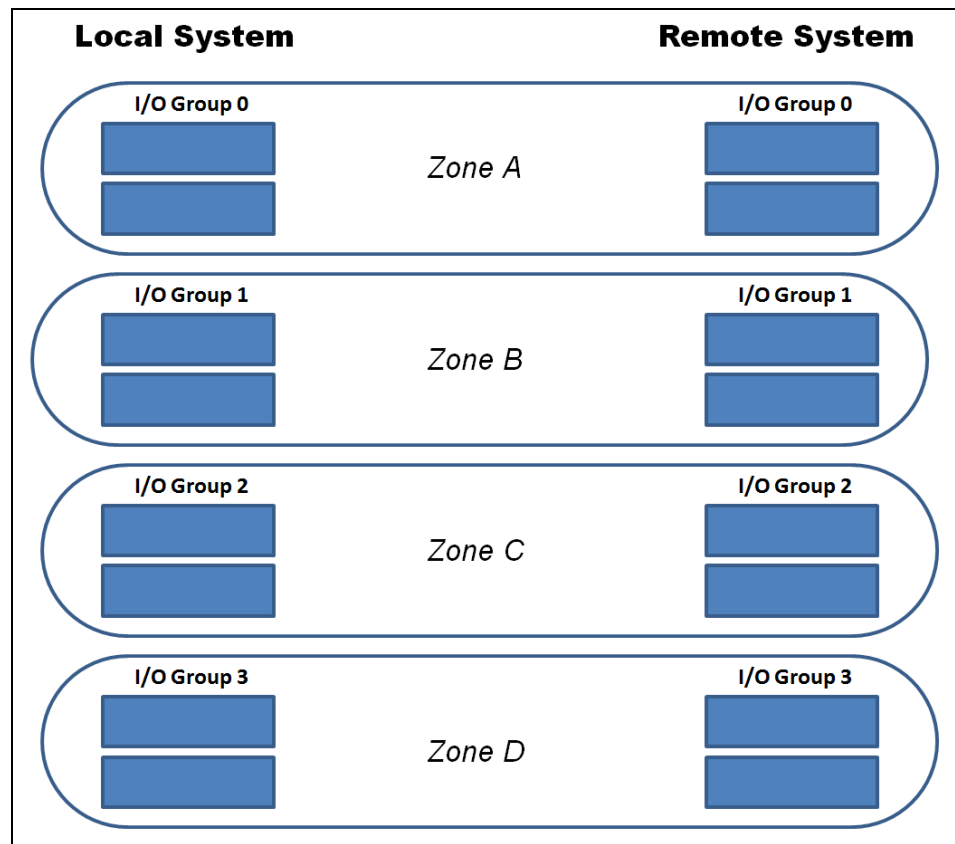

Figure 6-22 Zoning scheme for >80 ms Remote Copy partnerships
- For Remote Copy configurations where the round-trip latency between systems is more than 80 milliseconds, apply SAN zoning to provide separate intrasystem zones for each local-remote I/O group pair that is used for replication, as shown in Figure 6-22.